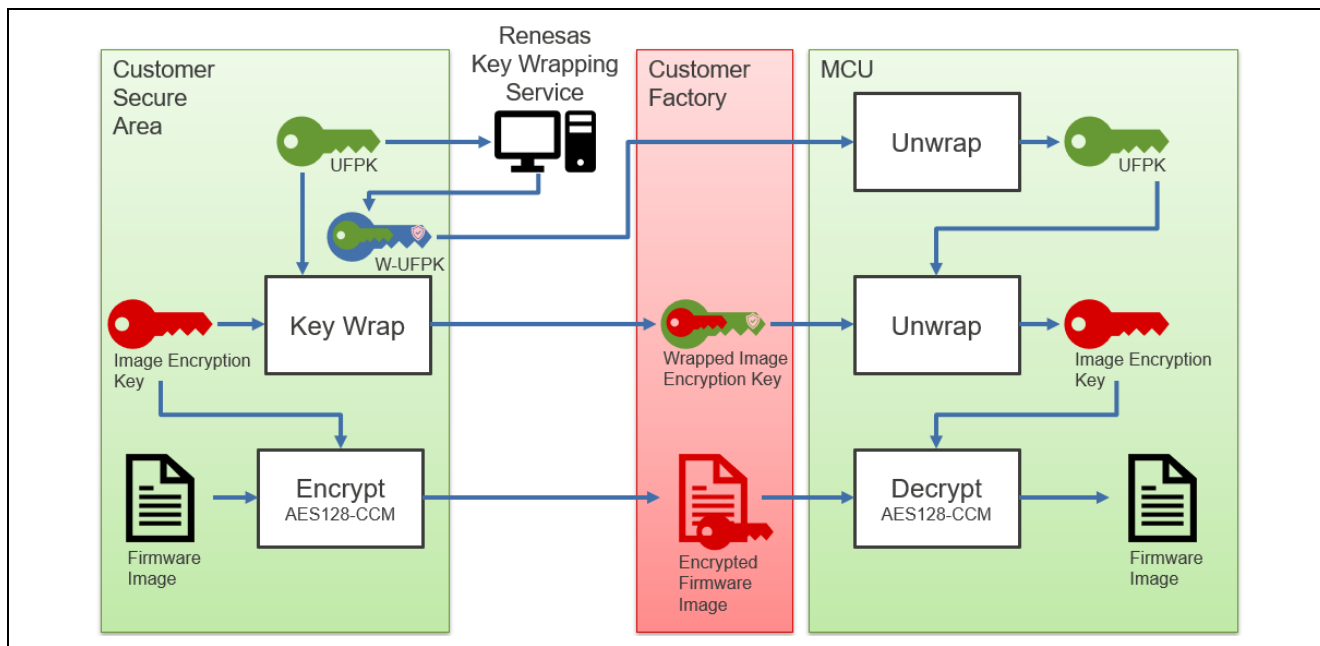

Figure 2. RA8 MCU Secure Factory Programming
Figure 2 provides a conceptual presentation for Renesas SFP process.
- **Security Key Management Tool (SKMT):** This tool implements a procedure to encrypt the firmware image to support the Secure Factory Programming concept described in Figure 2. Once the firmware image encryption is complete, the tool generates a secure programming file, which includes the encrypted firmware image, the W-UFPK, the Wrapped Image Encryption Key, and the optional Wrapped Authentication Level Keys. This file will be required for the secure programming operation.